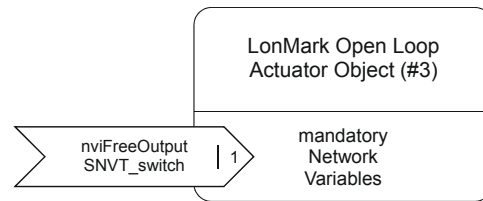

Fig. 10. Open Loop Actuator Object
- two open loop actuator objects (#3) (see Fig. 10)